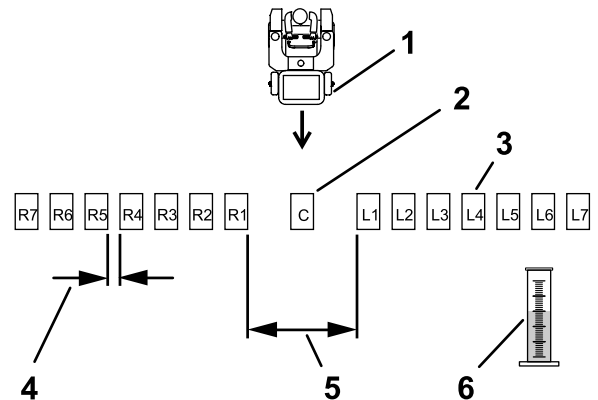
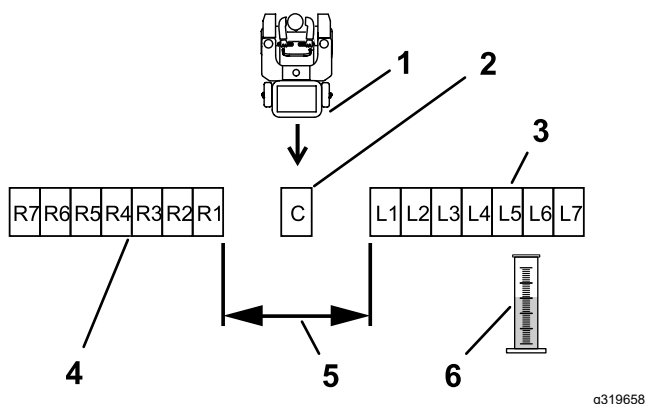

Figure 30
Figure 31
3. Place the remaining pans in a straight line as shown in Figure 30 or Figure 31.
Space six additional pans, on each side, 12 inches (30 cm) apart (see Figure 30).
Place six additional pans, on each side, with no gap in between each pan (Figure 31).
8. Label each graduated measuring cylinder to correspond with the distribution pans (i.e. ...L2, L1, Center, R1, R2....) (reference Figure 30 and Figure 31).